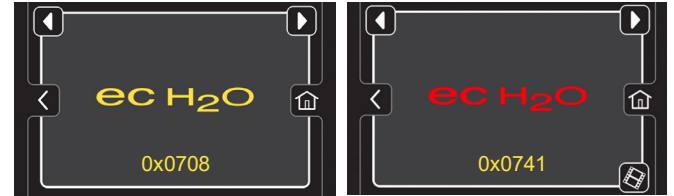

FIG. 61
**Yellow ec-H2O Fault Screen** - Machine detected an ec-H2O system water or plumbing fault (Figure 61).
**Red ec-H2O Fault Screen** - Machine detected an ec-H2O system electrical fault (Figure 61).